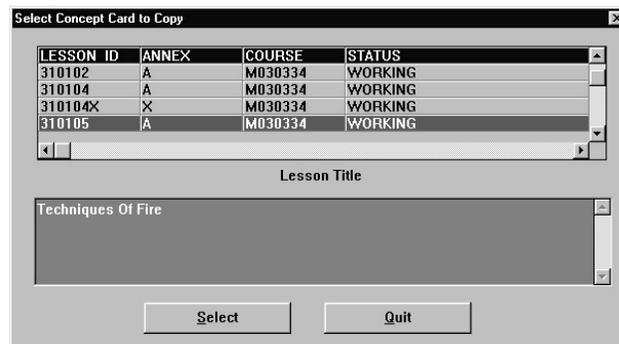

Figure 6-76. Select Concept Card To Copy
2. Choose the desired course and click on **Select**. The Select Concept Card To Copy selection list box (Figure 6-76) opens. Note the lesson title of the highlighted lesson appears in the field below the list of concept cards.